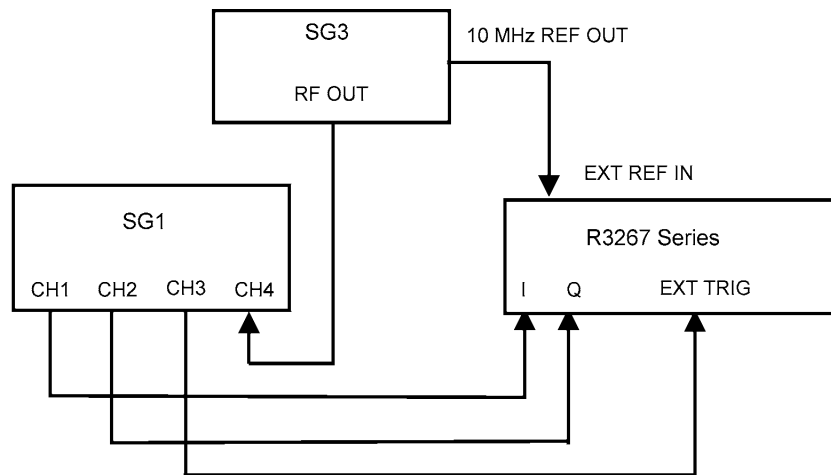

Figure 6-4 Setup of Code Domain Measurement (in IQ Input)
1. Connect equipment as shown in Figure 6-4.